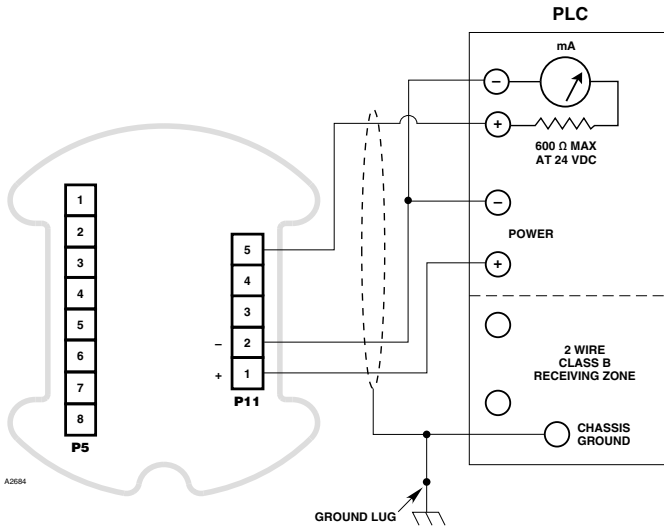

Figure 12—Single Detector Wiring (0-20 mA used, Relays not used)
- Figures 12 and 13 show wiring for single detector configurations.